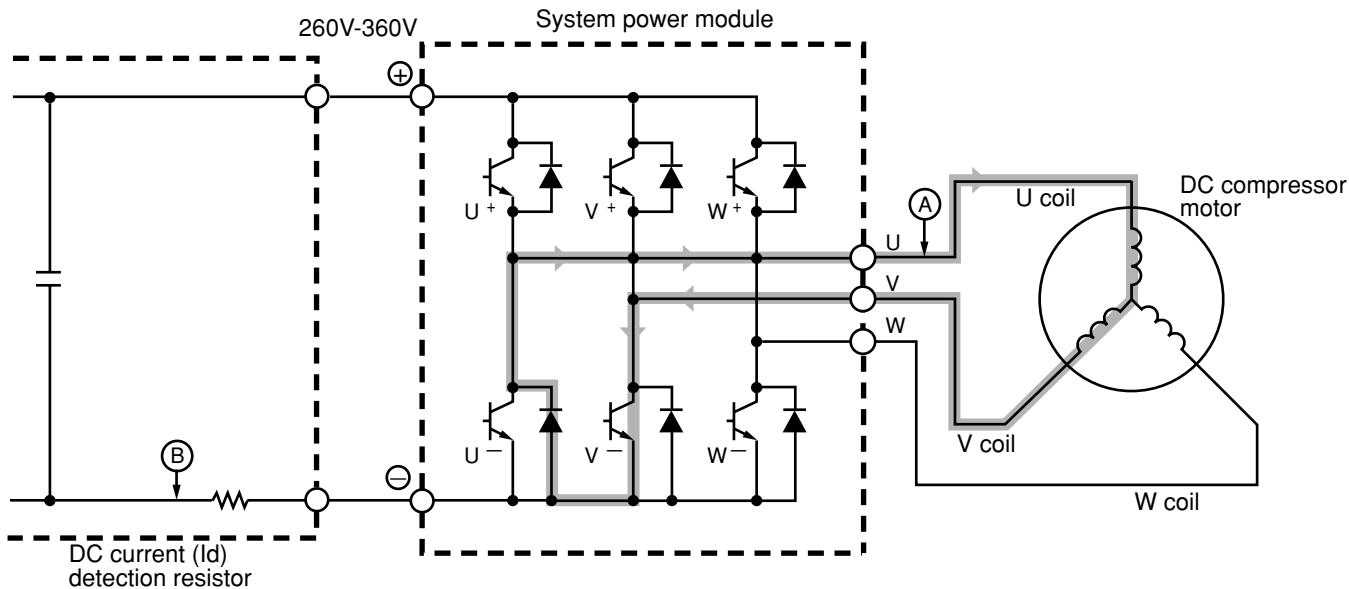

Fig. 3-4 Power module circuit (U^+ is ON, V^- is ON)
- (2) When U⁺ transistor is OFF: (by inductance of motor coil) U coil → V coil → V⁻ transistor → Return diode → Point ① (Fig. 3-4)